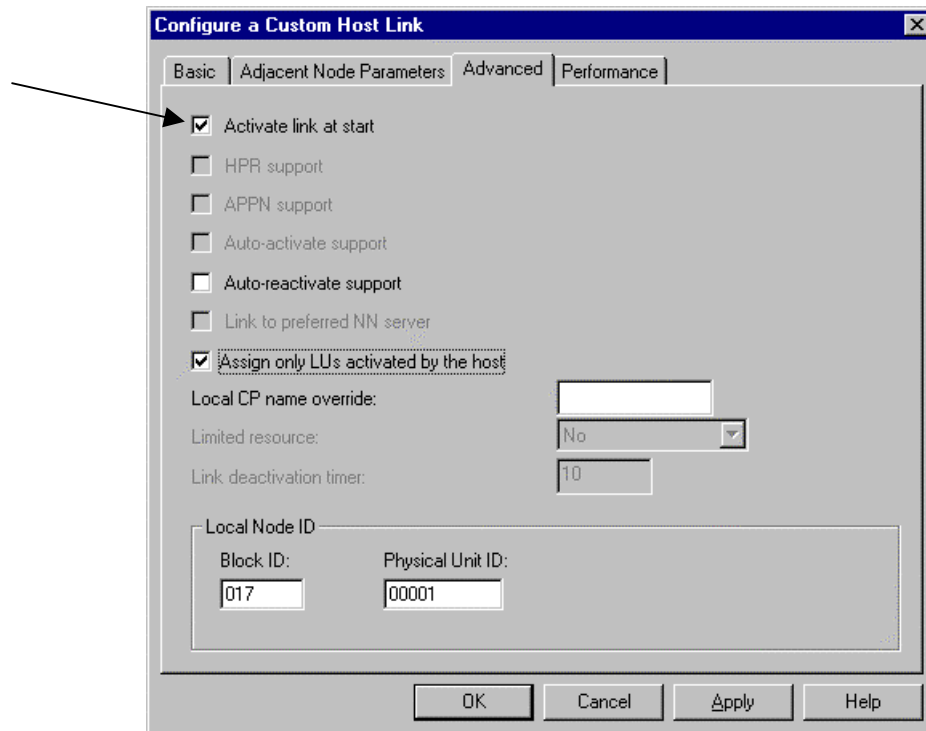

Figure 16-25. Activate Link at Startup
5. On the Advanced page (Figure 16-25) verify that the adapter is configure to activate at system startup.